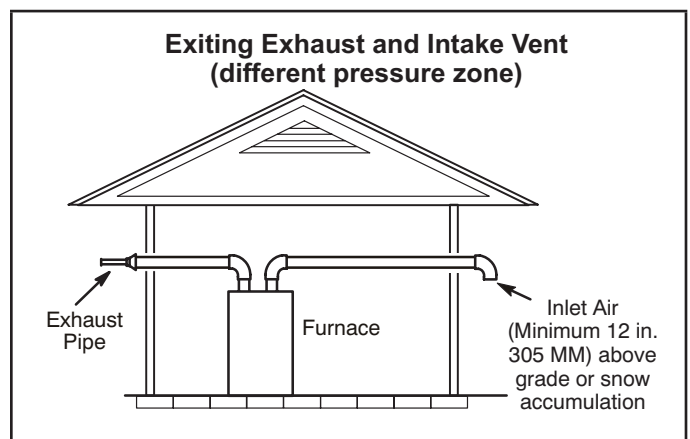
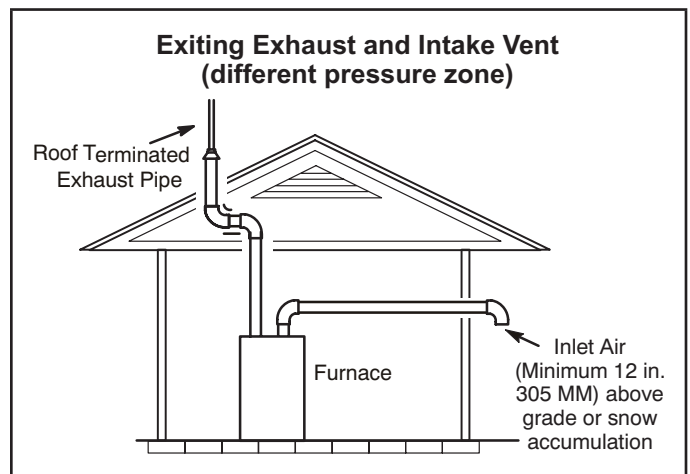

FIGURE 32
FIGURE 33
- 1 - Intake and exhaust terminations are not required to be in the same pressure zone. You may exit the intake on one side of the structure and the exhaust on another side (FIGURE 32). You may exit the exhaust out the roof and the intake out the side of the structure (FIGURE 33).